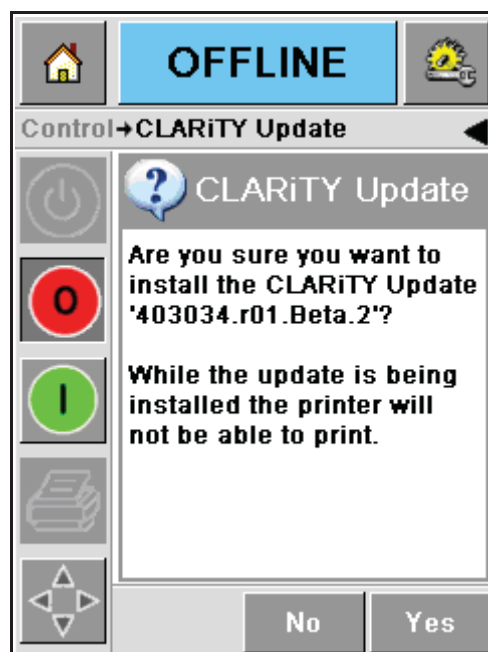

Figure 5-33: CLARiTY Confirmation Page
- 6 Touch OK, a confirmation page appears (Figure 5-33).